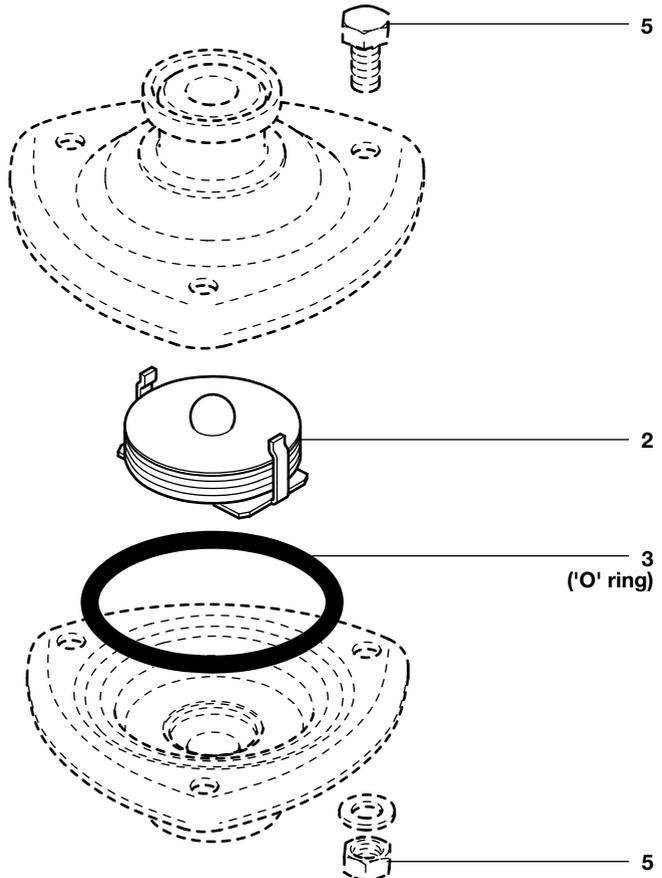

Fig. 2
- The end connection with internal seat, gasket and capsule assembly can then be removed for cleaning or replacement. Ensure that the capsule on reassembly is fitted in the correct position (see Figure 2, page 8).